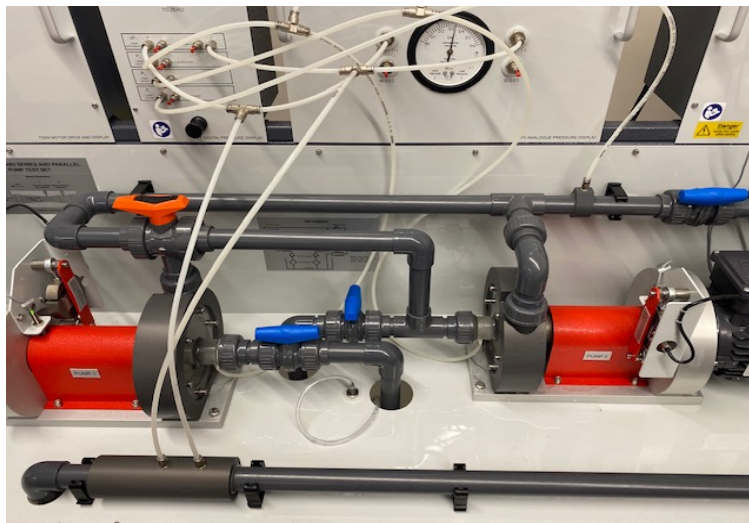

Figure 8. Series Pump Configuration
- c. Open Pump 1 inlet valve. Close Pump 2 inlet valve. Set the two-way valve to direct flow straight to the inlet of pump 2 (see Figure 8). Fully open the delivery valve.